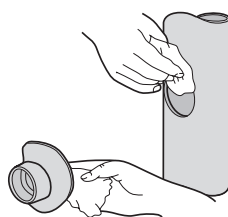

Fig.26d Cleaning mating surfaces
**Step 4** – Clean all mating surfaces with 9101 Cleaning Fluid using a dry, clean, natural fibre cloth (NOT synthetic) (Fig.26d)